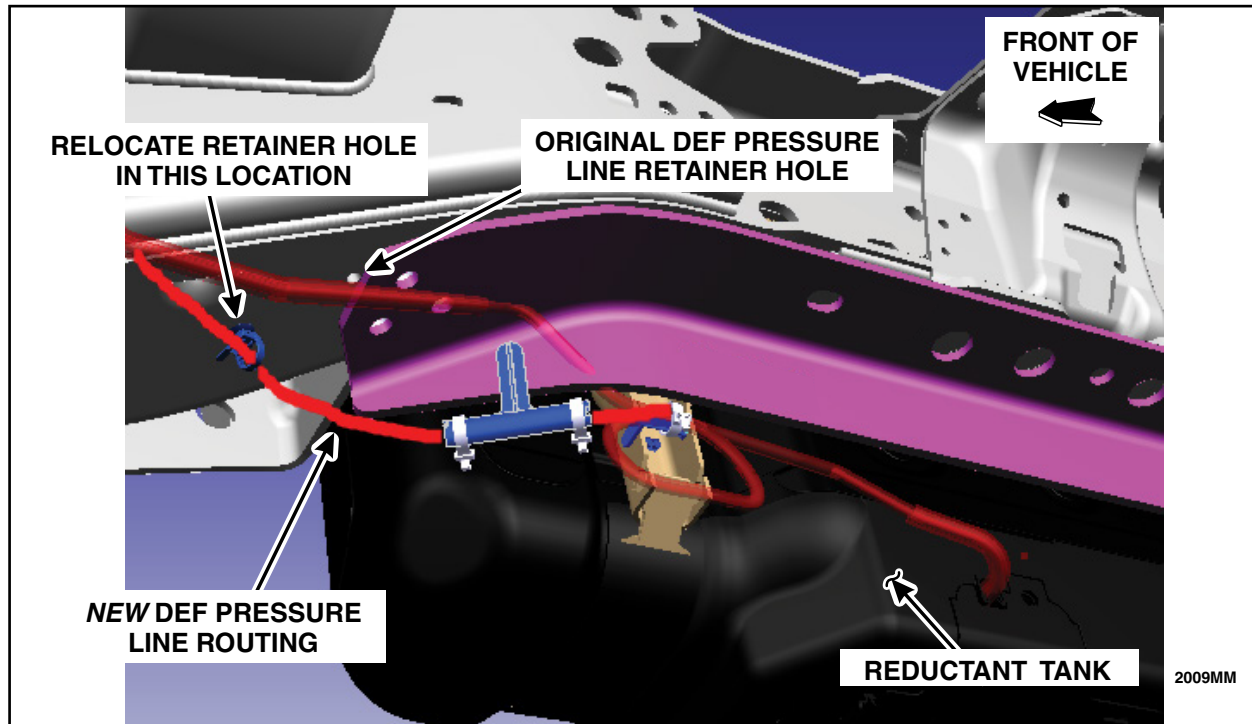

FIGURE 33
3. Using a drill and an 8mm (0.31 in) bit, drill a *new* hole location, for the *new* routing clip, forward of the lower frame rail bracket. Using a small brush and Motorcraft® High Temperature Anti-Corrosion Coating (PM-13-A), apply the coating in and around the hole that was just drilled, to cover any bare metal present from the drilling of the hole. Then, install the supplied push pin zip tie into the new hole location and position the DEF pressure line and secure in place with the zip tie as shown in Figure 33.
NOTE: The *new* drill hole location should be determined by positioning the DEF pressure line in its natural relaxed position toward the frame and marking a location for the *new* drill hole, forward of the *new* reinforcement bracket as shown in Figure 33.